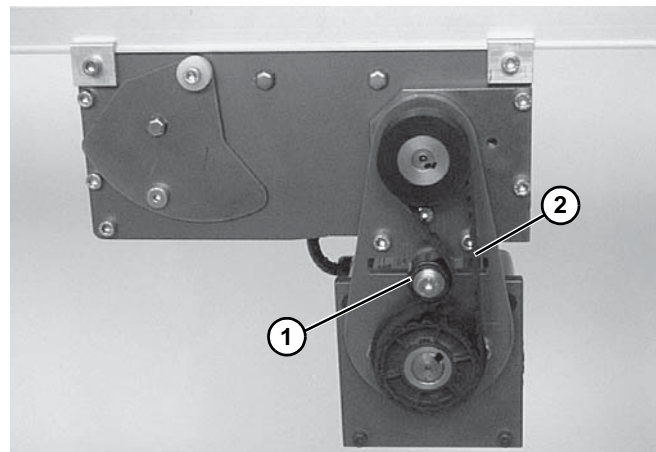

**Figure 48**
1. Remove cover screws (**Figure 48, item 1**) and remove cover (**Figure 48, item 2**).